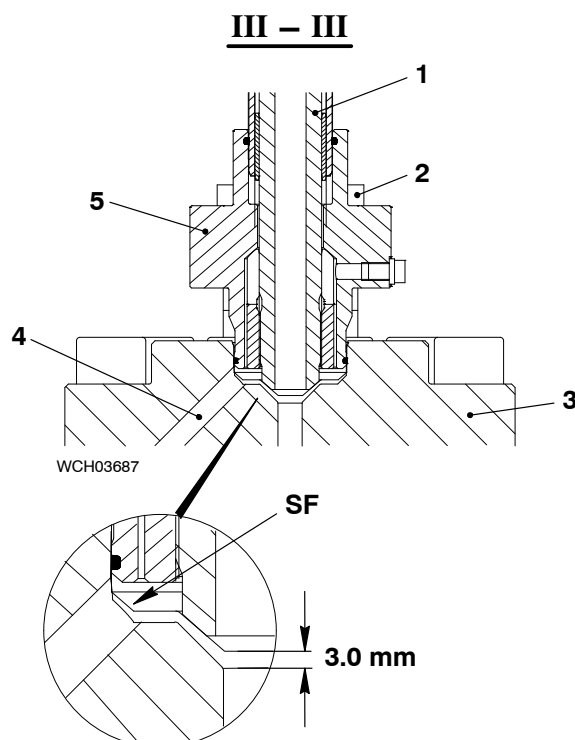

Fig. 2
- 6) Remove the clamps (1).
- 8) Loosen the four screws (2, Fig. 2) on the flange (5) a maximum of three turns.
**Note:** The fuel will drain through the drain bore (4) into the fuel leakage pipe.
- 9) Move the HP fuel pipe (1) up. Make sure that there is a distance of approximately 3.0 mm between the fuel pump cover (3) and the HP fuel pipe (1).